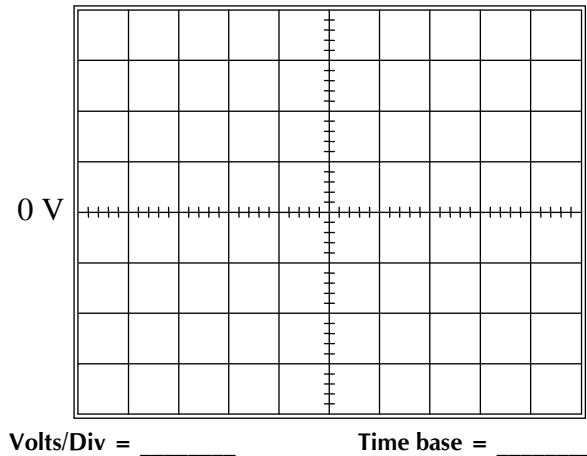

Fig. 3.22 Waveform v_o (expected)
3. Using the V_T of Experiment 3.1.1 for each diode sketch the expected output waveform v_o on Fig. 3.22. Choose a vertical and horizontal sensitivity commensurate with the secondary voltage.